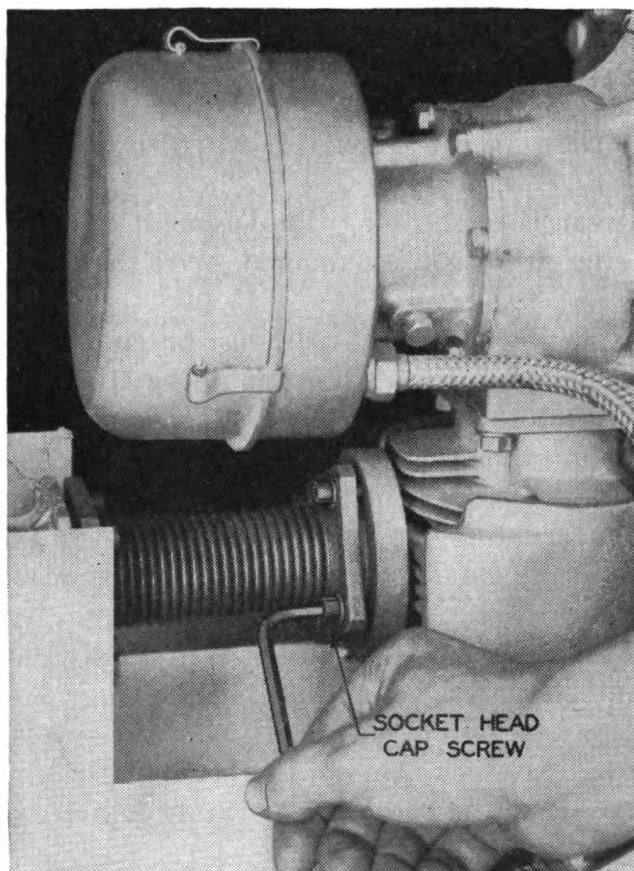

FIGURE 11.—Disconnecting exhaust coupling.
(3) Remove the four socket head cap screws at the cylinder end of the flexible exhaust coupling, which are then exposed (fig. 11).